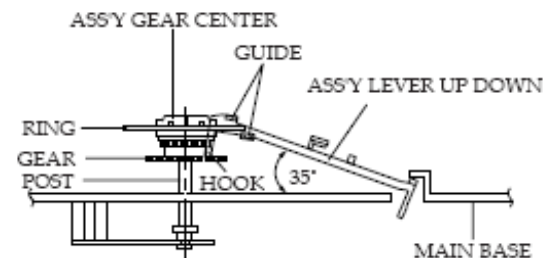

Fig. 3-30 Ass'y Lever Up Down Removal
- 1) Insert the Ass'y Lever Up Down ❶ in the rectangular holes on Main Base as shown in Fig 3-30.
- 2) Lift the Lever Ass'y Up Down ❶ about 35°. (Refer to Fig 3-30)
- 3) Insert Ring of the Ass'y Gear Center ❷ in the Guide of the Ass'y Lever Up Down ❶.
- 4) Insert the Ass'y Gear Center ❷ in the post on Main Base.
- 5) Push down the Ass'y Lever Up Down ❶ for locking of the Hook.